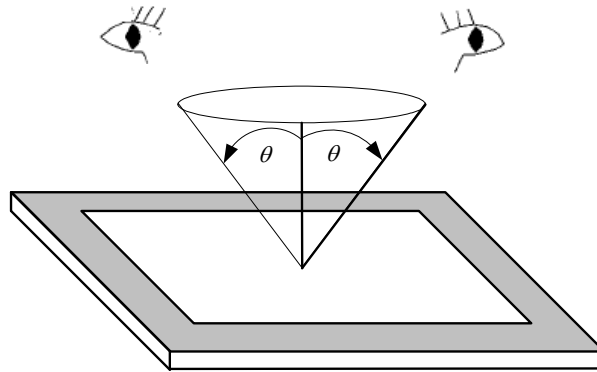

Fig 12.1
- The viewing zone is defined with angle θ shown in Fig.12.1 The inspection should be performed within 45° when display is shut down. The inspection should be performed within 5° when display is power on.